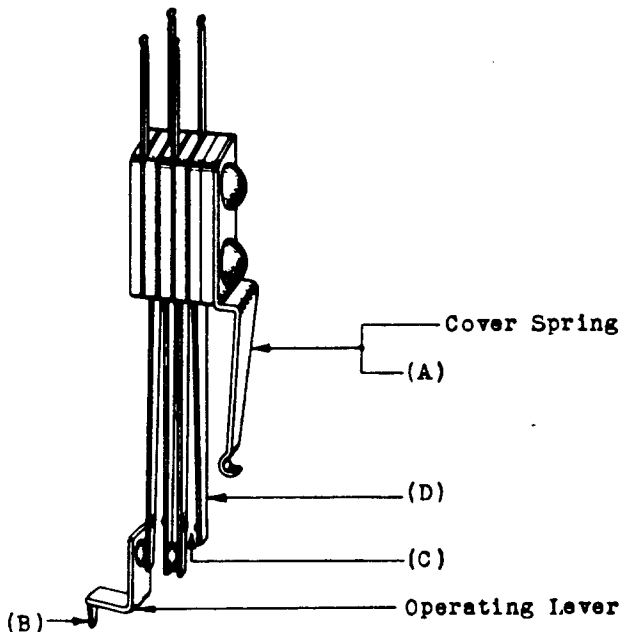

Fig. 3 - Spring Assembly - Externally Adjusted Dashpot Relay
- 2.03 Cover Spring Tension - Fig. 3 (A) - (Externally Adjusted): The cover spring shall hold the cover firmly in place. Gauge by feel.
- (a) Externally Adjusted - Fig. 3 (B) - The operating lever shall operate without bind. Gauge by feel.
- 2.06 Contact Separation - Fig. 3 (C) - The separation between any pair of contacts normally open or between any pair of contacts that are opened when the relay is operated shall be Min. .010" Use the KS-6909 gauge.
- (b) Fig. 3 (D) - In the case of a make-make spring combination this requirement applies only to the contact making last.